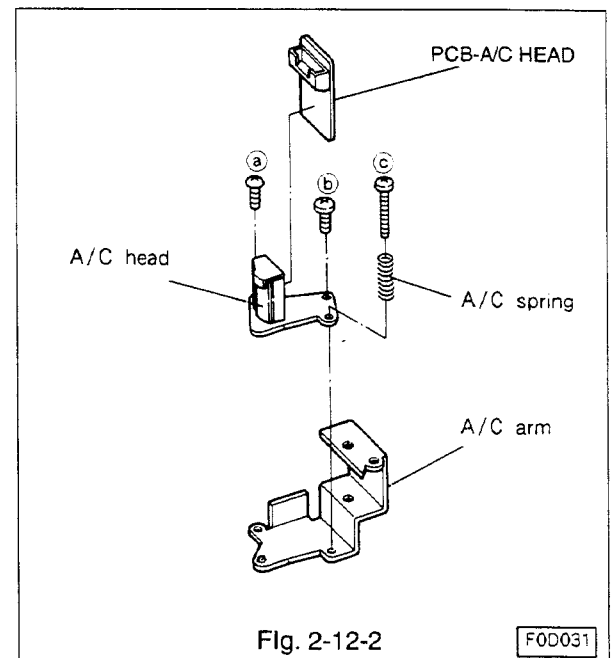

Fig. 2-12-2
- Remove three A/C head fastening screws((a) ~ (c)) and the A/C spring shown in Fig. 2-12-2, and remove the A/C head from the A/C arm.
- Unsolder the PCB-A/C HEAD from the A/C head.(Refer to Fig. 2-12-2.)
(Refer to Fig. 2-12-2.)